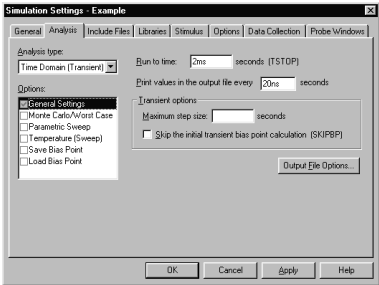

Figure 16 *Transient analysis simulation settings.*
- 5 From the Analysis list, select Time Domain (Transient) and enter the settings shown in Figure 16.